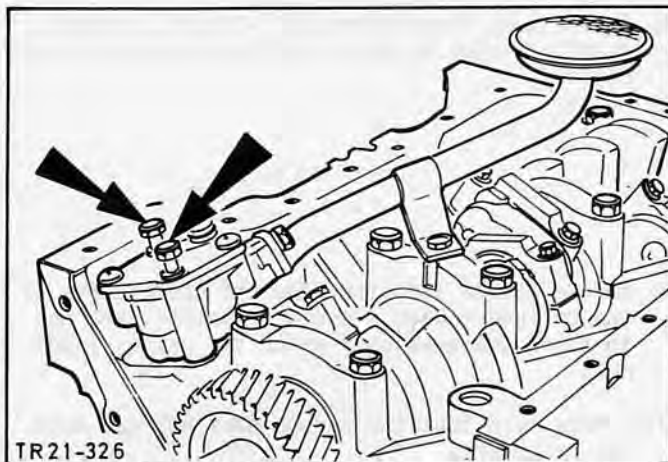

Fig.36. Oil pump with suction pipe.
22. Remove the oil pump complete with the suction pipe, Fig.36, (5 bolts) and lift out driveshaft.